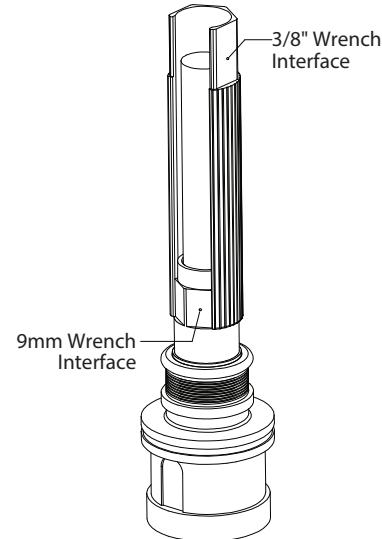

FIGURE 3
- C. Slide the retention ferrule forward. Then, using a 9mm wrench, or 3/8" wrench if using ferrule tool 607-011, tighten the retention ferrule to a torque of 8-10 in-lb. (Figure 3)